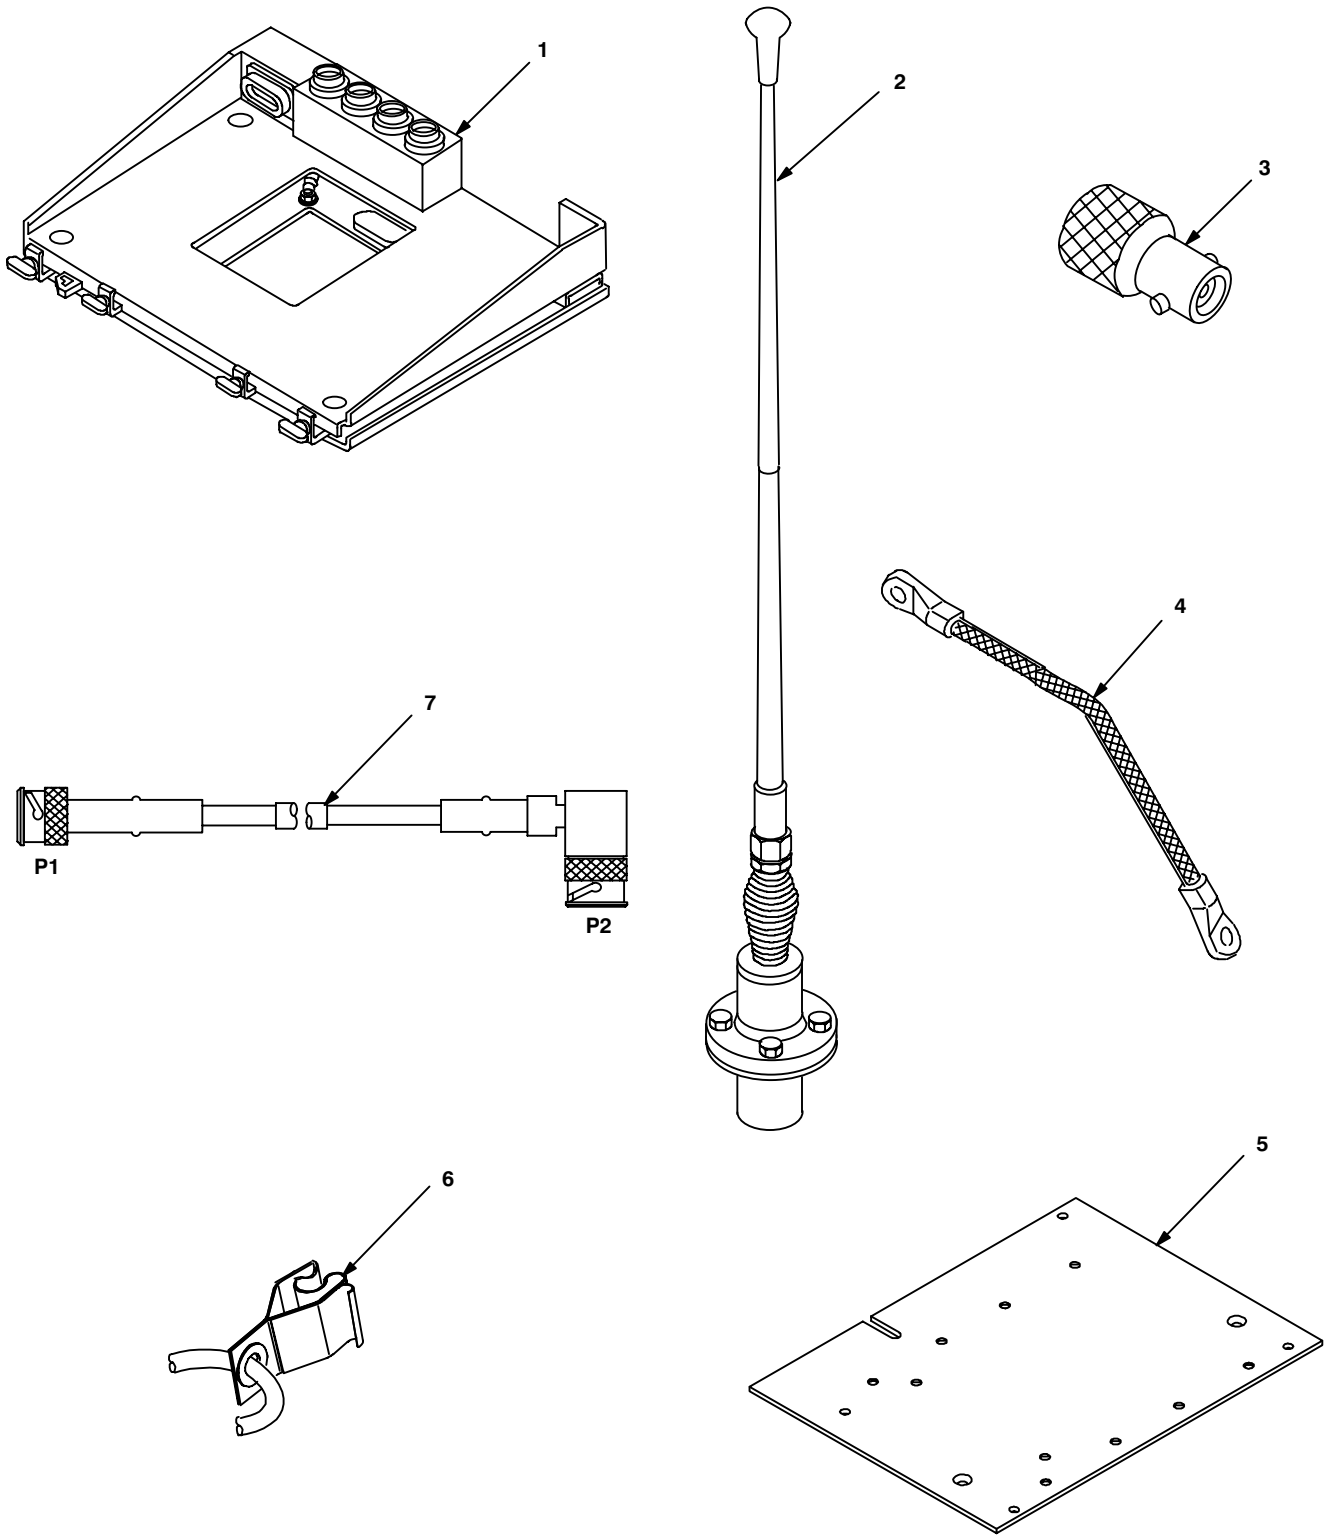
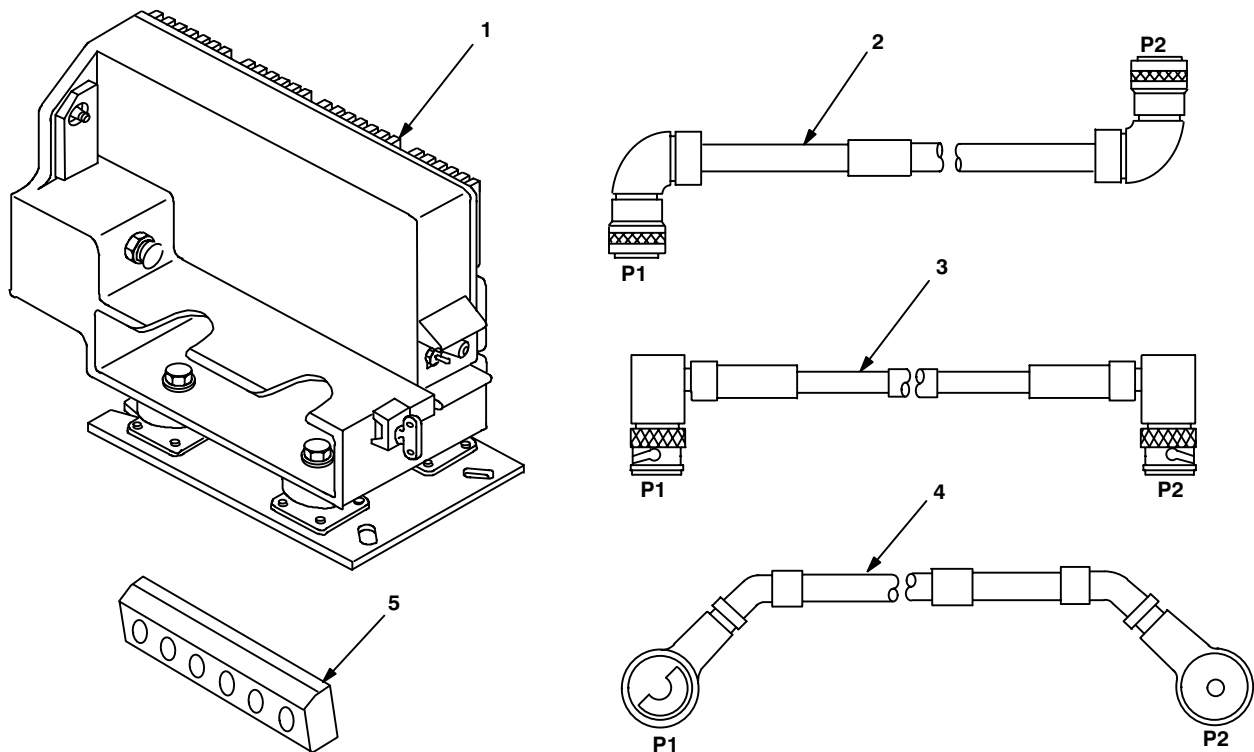

Figure 4-1. MK Illustrated Parts List
Figure 4-2. Illustrated Parts List for Table 4-2
4.3.1 Items Supplied in MK and/or Required for Installation. Use Table 4-1 and figure 4-1 to identify and inventory MK parts supplied to install Radio Set: AN/VRC-90 Series and AN/VRC-92 Series. Refer to Table 4-2 and figure 4-2 to identify additional items required to install Radio Set AN/VRC-92 Series.